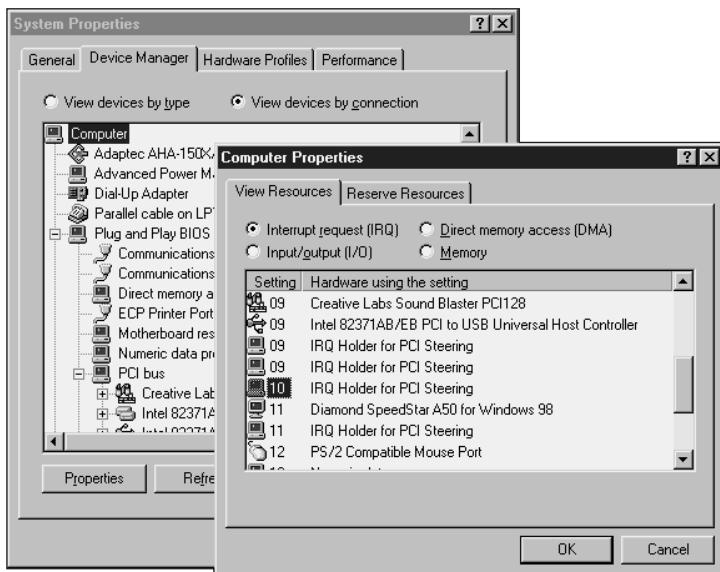

Figure 9-23 PCI bus IRQ steering has placed a holder on IRQ 10, making it unavailable to ISA devices
In order to make this happen, Windows must detect an unused IRQ that it can use for the substitution. It then puts a holder on the IRQ, meaning that it reserves this IRQ for PCI only. The IRQ is no longer available for an ISA device as long as Windows has the holder on it. See Figure 9-23 for one example.
1. Click **Start**, point to **Settings**, click **Control Panel**, **System**, and then **Device Manager**. Click **Computer** and then **Properties**. Select the **View Resources** tab. The window in Figure 9-23 is displayed, showing the IRQs currently in use.